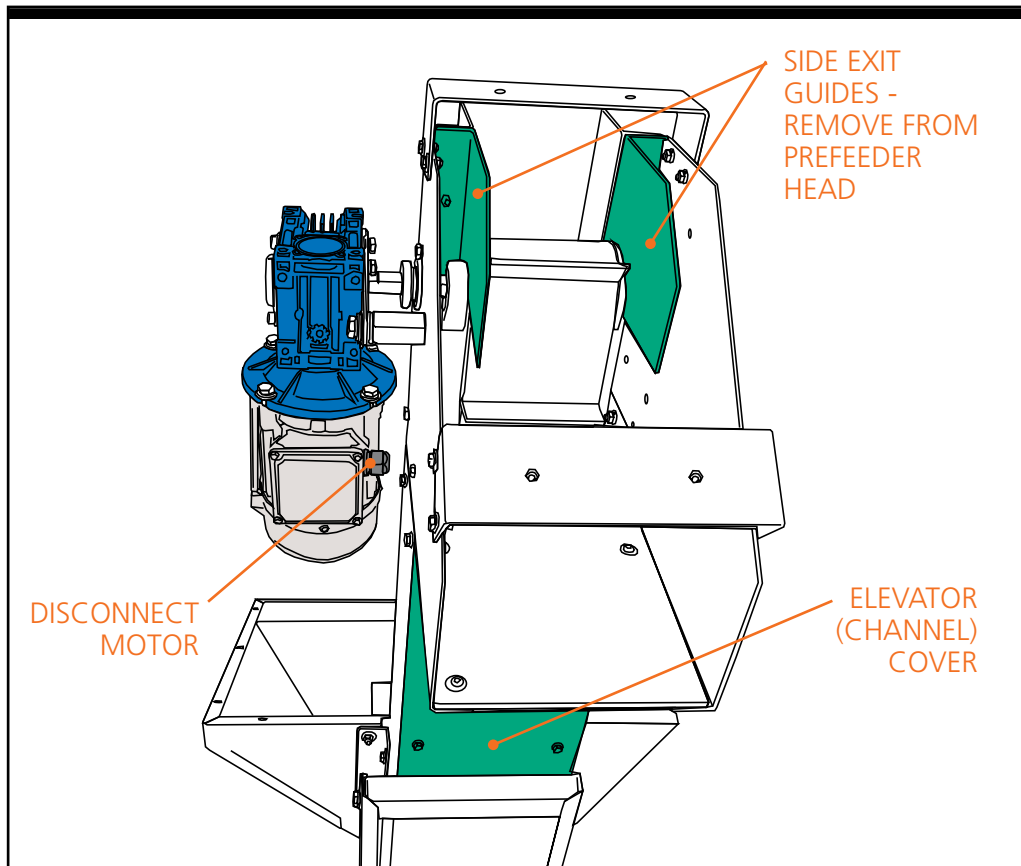
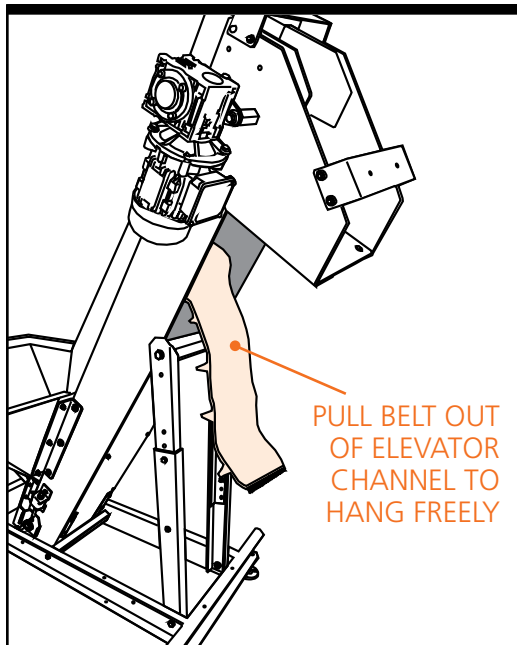
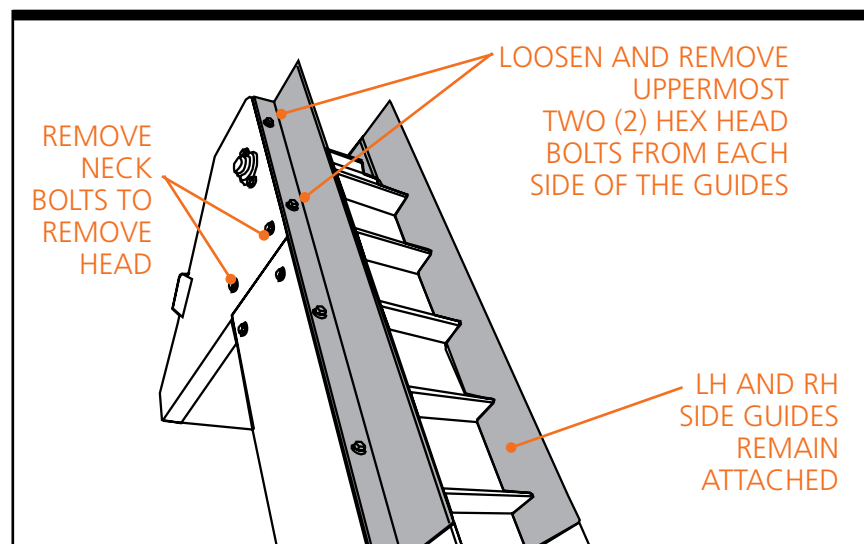
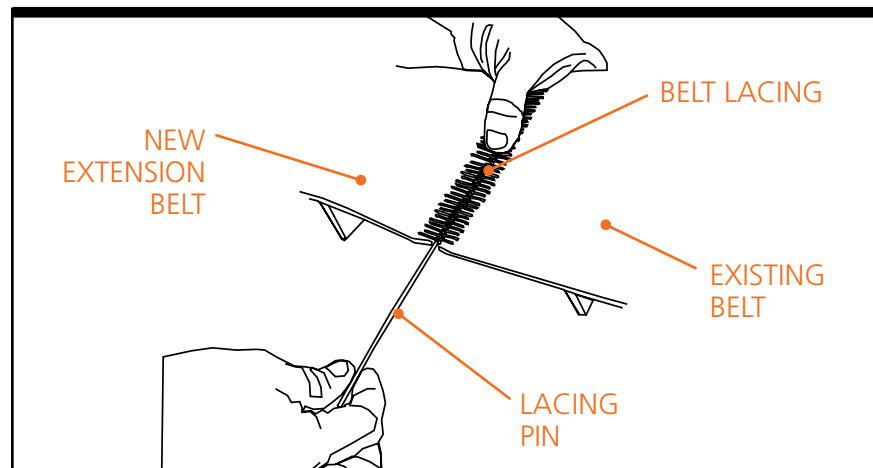

Figure 3-4. Disconnect Power, Remove Elevator Covers, and Remove Head Side Exit Guides
Figure 3-5. Pull Belt Out to Remove Prefeeder Head
Figure 3-6. Side Guides - Remove Hardware
Figure 3-8. Attach New Belt Extension to Existing Belt
Step 2—Disconnect Power and Lockout/Tag Out the Prefeeder. If power has already been supplied to the prefeeder, first lock out and tag out the power supply, then disconnect the wiring to the drive motor (undo the nut at the base of the motor connection box and disconnect wiring - see Figure 3-4).
Step 3—Remove Channel Cover. Located on the underside of the prefeeder's elevator is a cover over the belt return (Figure 3-4). Undo the four hex bolts that hold the upper cover plate in place, and set the plate aside. Pull the belt down from the prefeeder's head, and let the belt hang (see Figure 3-5).
Step 4—Remove Prefeeder Head. Remove the side guide bolts on the prefeeder head. This frees the two exit guides (left hand and right hand) which help guide the belt. Set these exit guides (see Figure 3-4) to the side. Remove any hardware on the side guides from the head portion of the prefeeder, and set aside. You will not be removing the side guides on the channel, just disconnecting them. Then remove the two bolts on both sides of the prefeeder channel or neck (see Figure 3-6) and set aside.
Step 9–Attach New Belt Extension. Both ends of the new extension belt are laced. Attach one end of the belt extension to the part of the belt hanging out of the prefeeder's channel (Figure 3-5), using the lacing pin to lock both ends together (Figure 3-8). Feed the belt back through the neck of the prefeeder and through the head, letting it flow down the elevator of the prefeeder towards the hopper. Attach the other end of the belt extension to the end of the belt rising up from the base of the hopper. Retighten the take-up pulley to apply some tension to the belt (refer to Step 12 for more information on tracking/adjusting your belt).